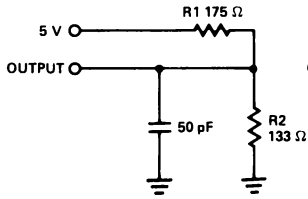

Figure 1a
- Figure 1a test load use for all parameters except t_{EA}, t_{ER}, t_{PZX} and t_{PXZ}. Figure 1b test load used for t_{EA}, t_{ER}, t_{PZX} and t_{PXZ}.